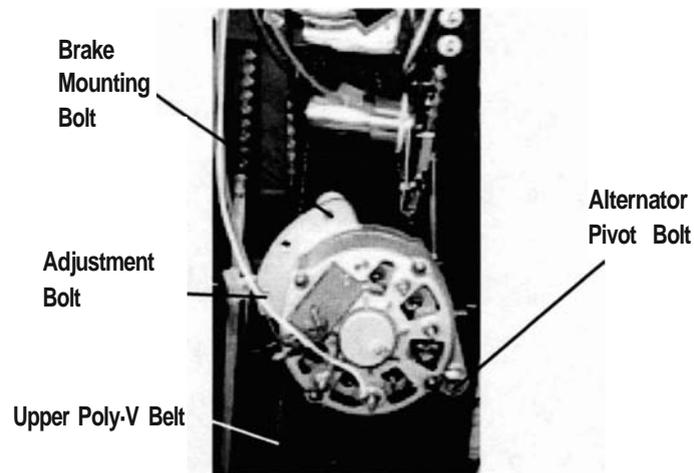

Figure 13: Alternator Mounting
3. Remove the brake mounting bolt from the alternator (see Figure 13).
4. Remove the alternator adjusting bolt from the slotted brace (see Figure 13). Loosen the pivot bolt on the alternator. Pivot the alternator down.